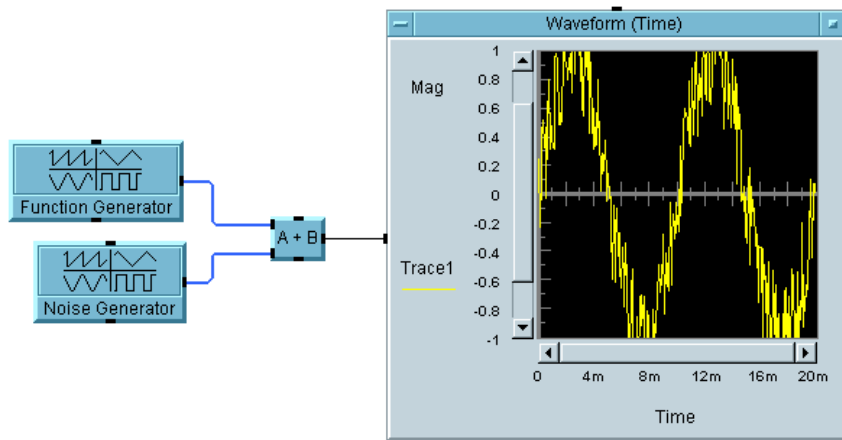

Figure 2-2. usrobj-program.vee at an Early Stage
- Then, minimize the Noise Generator object and rearrange the objects as shown Figure 2-2.